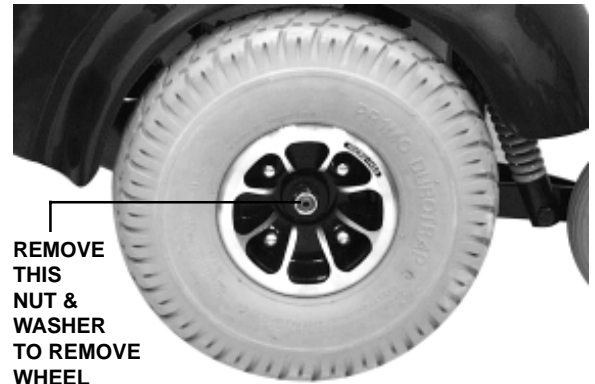

Figure 24. Drive Wheel
2. Use a 17-mm socket spanner and driver to remove the nut from the wheel axle. See figure 24.